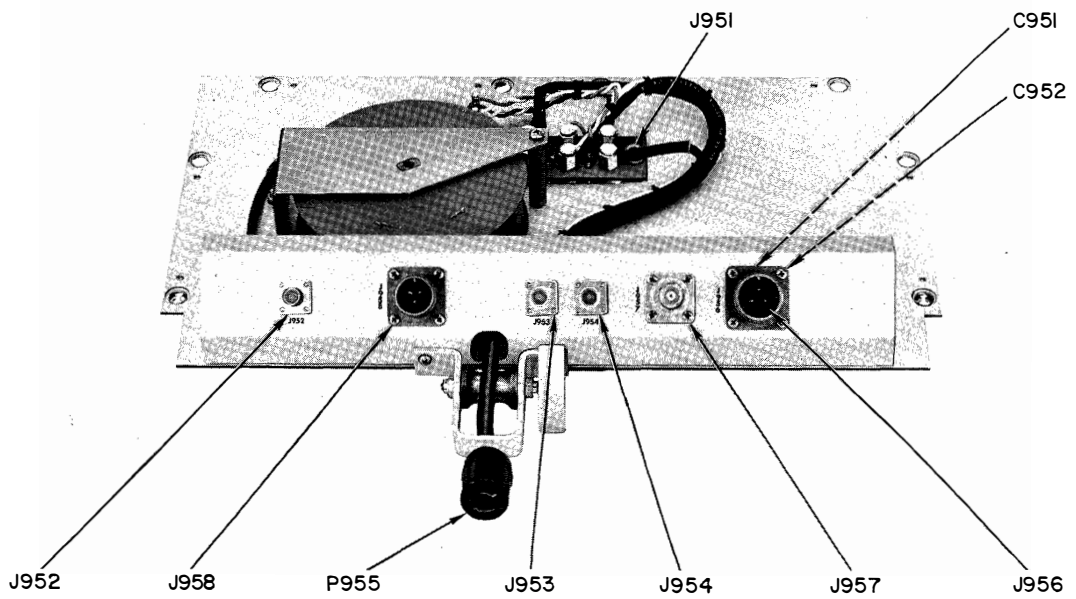

Figure 5-75. Converter Blister, Location of Parts
*b. ACCESS.*—The converter blister is located at the back of the converter cabinet. For access, pull out the converter drawer all the way. Reel E951 in the blister pays out the ac power cable as the drawer is withdrawn, but signal connections are broken. To restore them, connect patch cable W624 between the blister and drawer connection blocks. Figure 5-75 shows the location of parts of the converter blister.
- (1) Power connections P955 and J605
- (2) Cable connections on the outside of the blister.